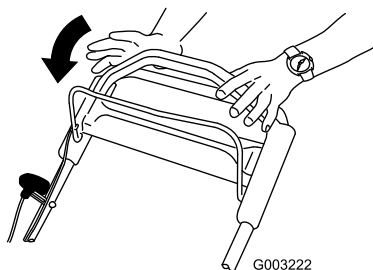

Figure 17
- Release the blade control bar (Figure 17).